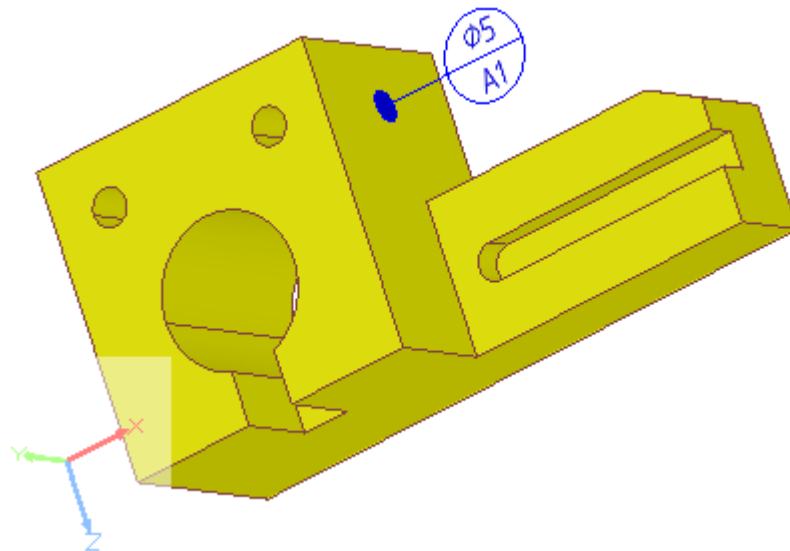

Figure 3. Datum target circle with leader line and symbol
-  **Circle Datum Target** - to open the Create Target Circle Wizard). The Figure 3 displays, how the created datum target (circle) is presented on the geometry model in the  **3D View**.